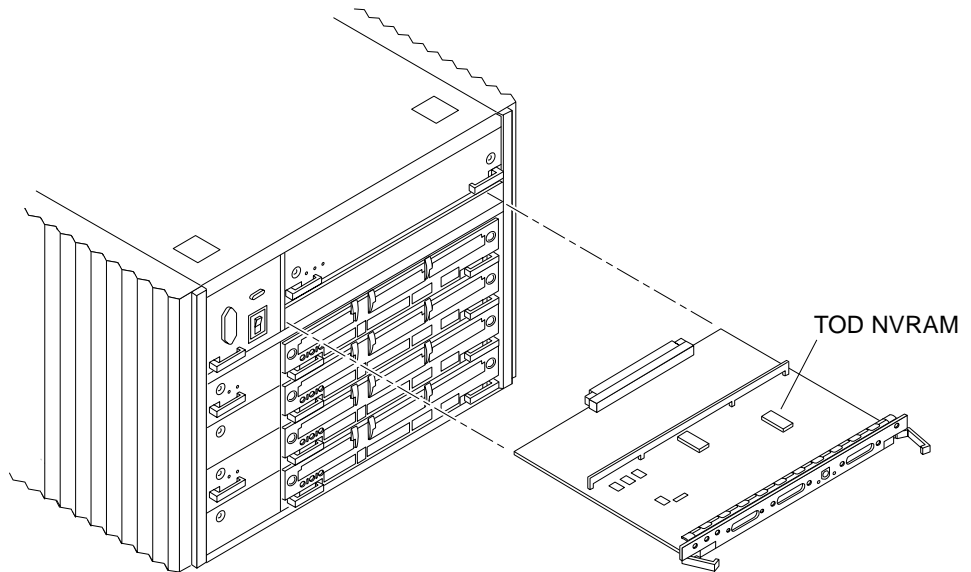

FIGURE 6-2 Clock+ Board
The clock+ board slot (FIGURE 6-2) is located near the top of the system, immediately below the peripheral power supply. The illustration shows an Enterprise 4500 server, but the location is similar for the Enterprise 5500 and 6500 servers.
4. Pull the ends of both extraction levers outward simultaneously to release the board from the centerplane receptacles (FIGURE 6-2).
2. **Ensure that both extraction levers are in the outward position as you slide the board toward the backplane connectors** (FIGURE 6-2).